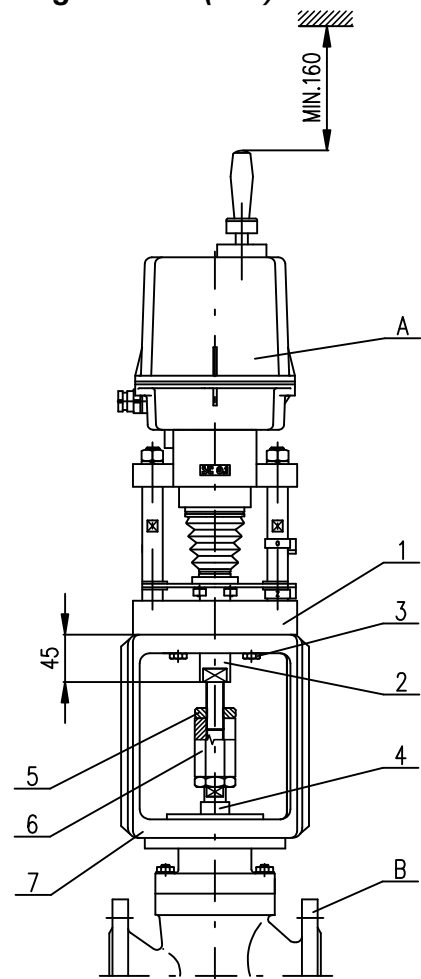

Fig.3
a) Mechanical connection with connection dimensions according to ISO (DIN) Standards (Fig. 3)